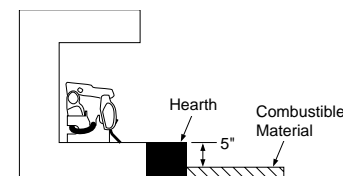

Figure 9 - Minimum Fireplace Clearances Above Combustible Flooring
- If combustible materials are less than 14" to the fireplace, you must install appliance at least 5" above the combustible flooring (see Figure 9).